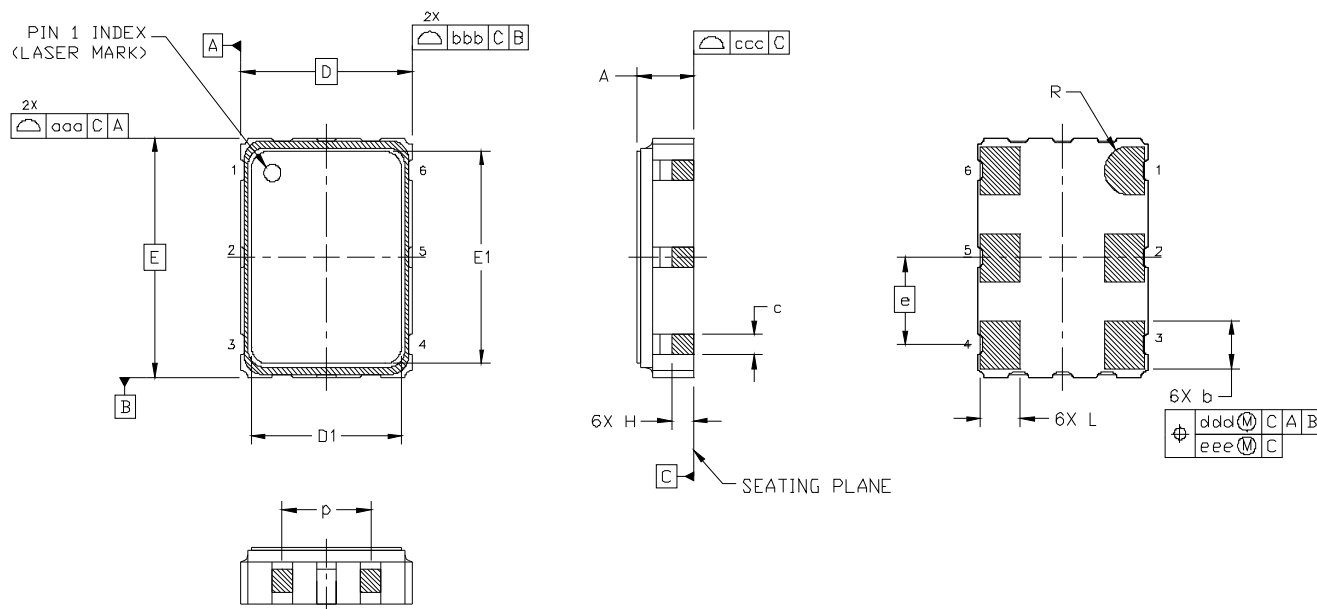

Figure 2. Si532 Outline Diagram
Figure 2 illustrates the package details for the Si532. Table 11 lists the values for the dimensions shown in the illustration.
- Revised Figure 2 on page 8 to reflect current package outline diagram.